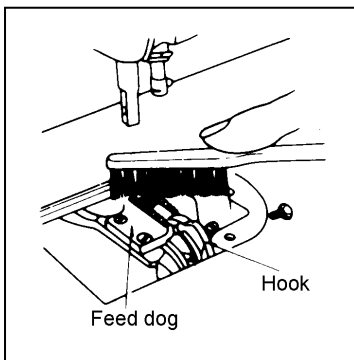
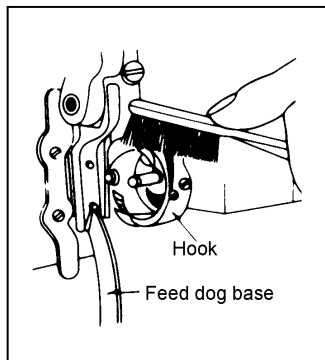
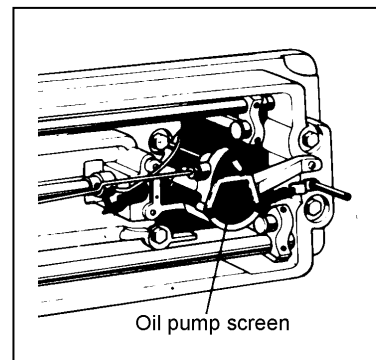

Fig.10
Fig.11
Fig.12
13、 Periodical cleaning (Fig.10, Fig.11, Fig.12):